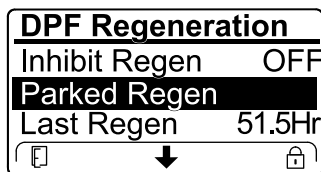

Figure 54
- If the engine computer requests a recovery regeneration or is processing a recovery regeneration and you scroll down to the PARKED REGEN option, parked regeneration locks and the lock icon (Figure 54) appears in the lower right corner of the InfoCenter.